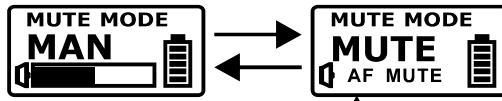

Fig. 20 ↑ AF MUTE blinks
- (2) MAN: the mute function is controlled by MUTE button. Fig. 20